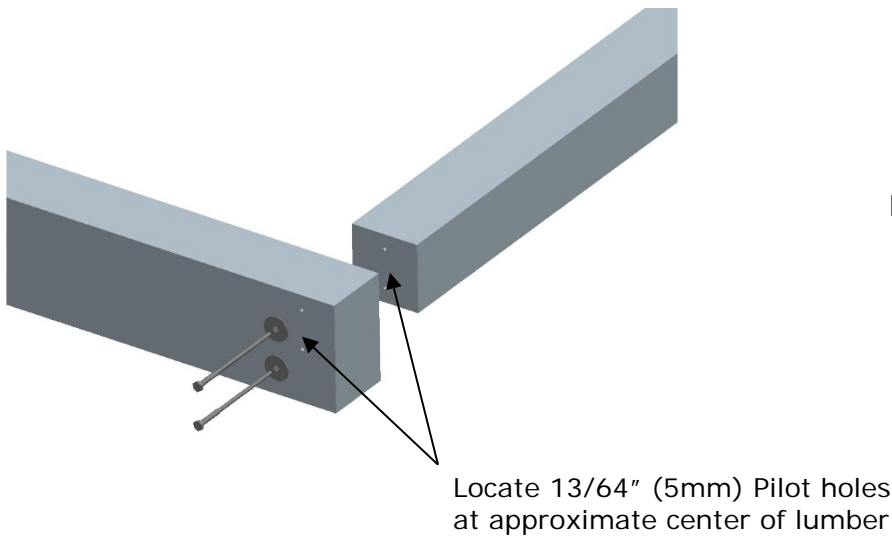

Figure 1
- A. Using 13/64" (5mm) Drill Bit, drill (8) pilot holes. Repeat for all 4 corners (See Figure 1)
- A. Using 5/16" (8mm) Deep Well Socket, assemble lumber using (2) 1" (25.4mm) washers with (2) 5-1/2 x 1/4 (139.7mm x 6mm) Lag Screws. Repeat for all 4 corners (See Figure 1)